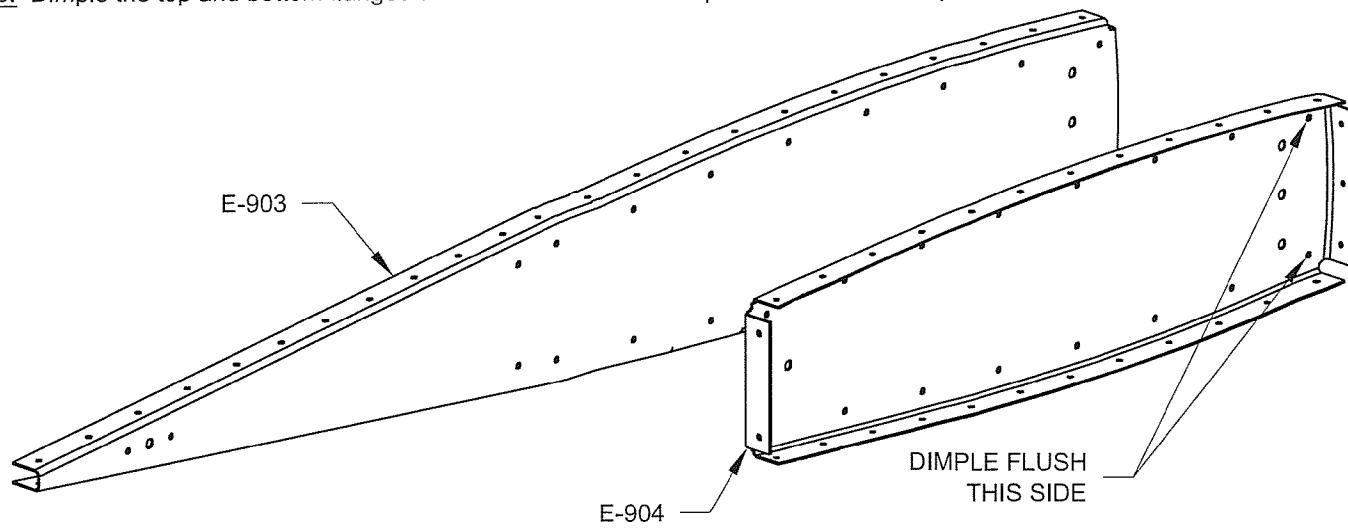

**FIGURE 3: DIMPLING THE RIB HALVES**
Step 3: Dimple the flanges of the E-1008A & B Rib halves, shown in Figure 3, to accept the dimples in the skins.